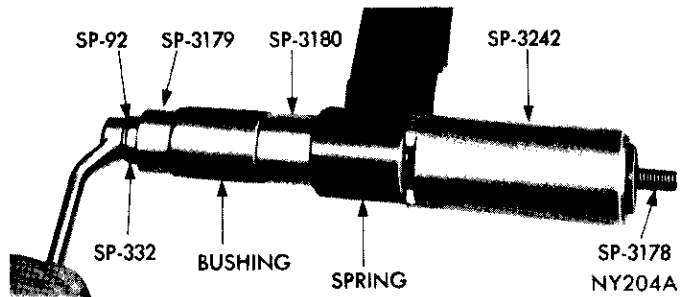

Fig. 5—Pivot Bushing Replacement
The removal of old bushings and installation of new bushings is performed in one operation, using Tool C-3709 (8 Cylinder models) or Tool C-3729 (6 Cylinder models) (Fig. 5).
(1) Raise vehicle on hoist to a comfortable working position.
(2) Using floor stands under axle assembly, raise axle assembly to relieve weight on rear wheels.
(3) Disconnect rear shock absorber at spring plate lower mounting stud. Lower axle assembly, permitting rear springs to hang free.
(4) To replace front pivot bushing, remove rear spring front hanger from body bracket. Remove pivot bolt and hanger from spring.
(5) Place new bushings on Tool C-3709 (8 Cylinder models) or Tool C-3729 (6 Cylinder models) (Fig. 5). Arrange tool in spring eye, then press out old bushing